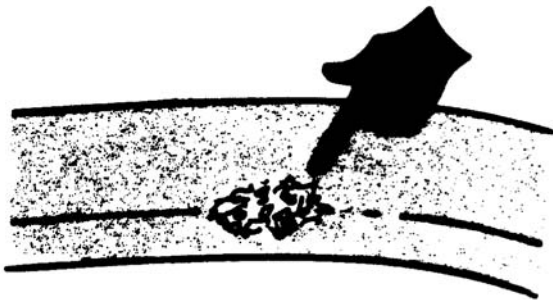

Figure 4-2. Belt Wear Due to Interference
3. If belt frays or wears on the outside, incorrectly mounted belt guards and belt clips usually are at fault. Replace belt and reposition belt guards and belt clips. These should be positioned close to the belt. But when the clutch is engaged and the belt is tightened, belt guards and belt clips must not touch the belt. See Figure 4-2.